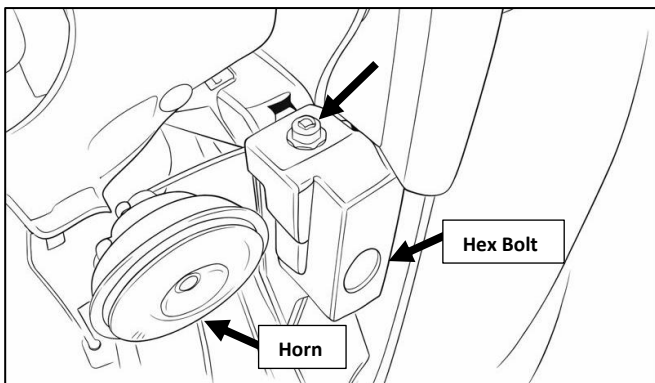

Figure 3: Bumper Inner Bolt Location, Left Side
5. ☐ Remove the screws on both sides of the space left by the grill using a T30 driver. **See Figure 3.**